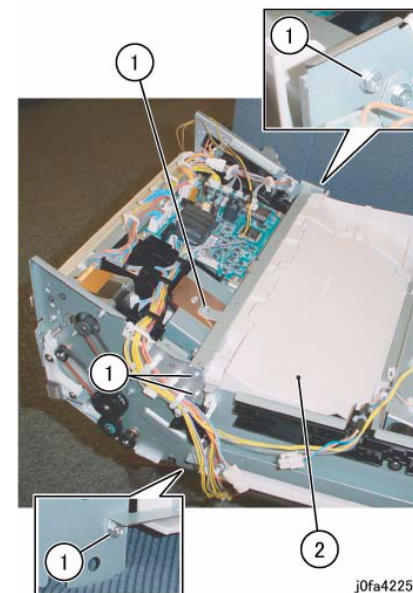

Figure 4 Removing the Stacker Tray Assembly
12. Remove the Stacker Tray Assembly (Figure 4):